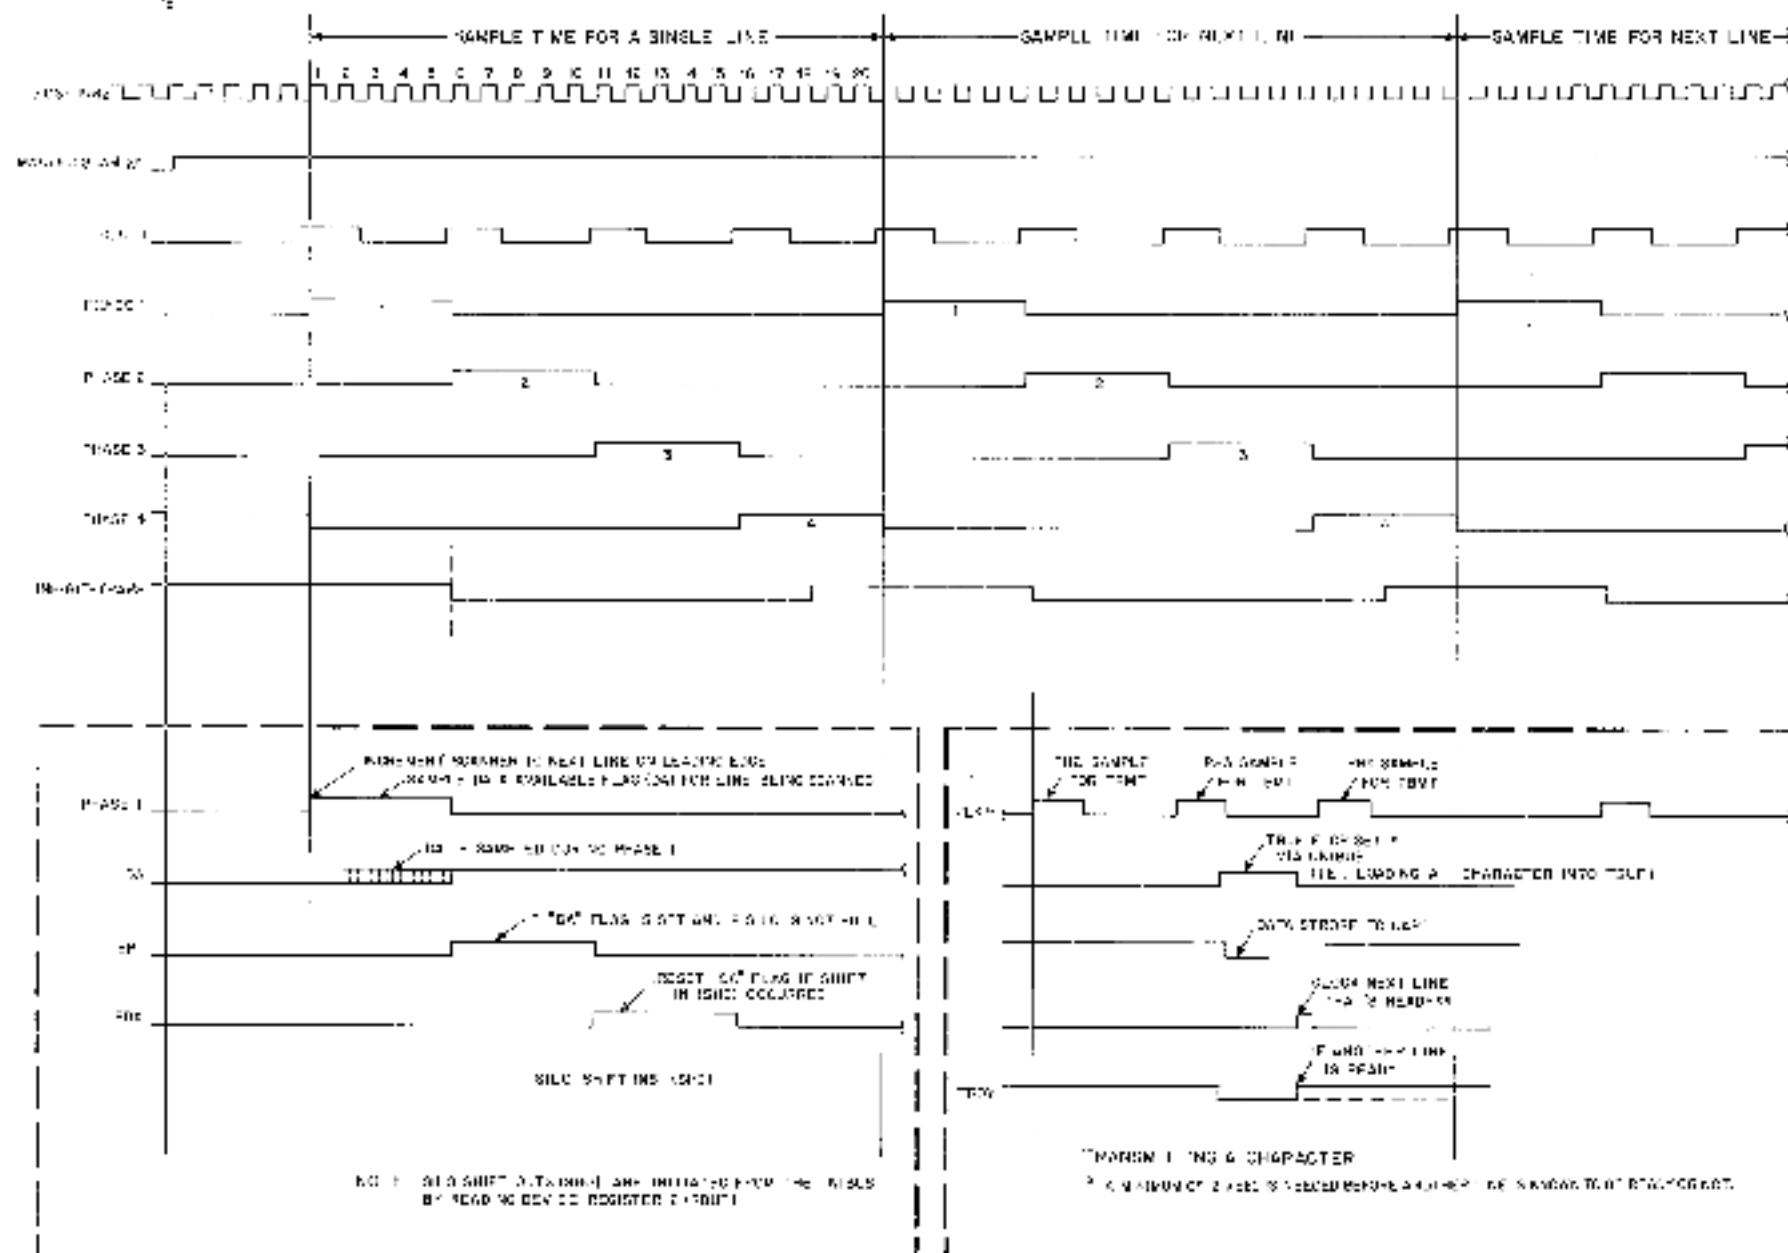
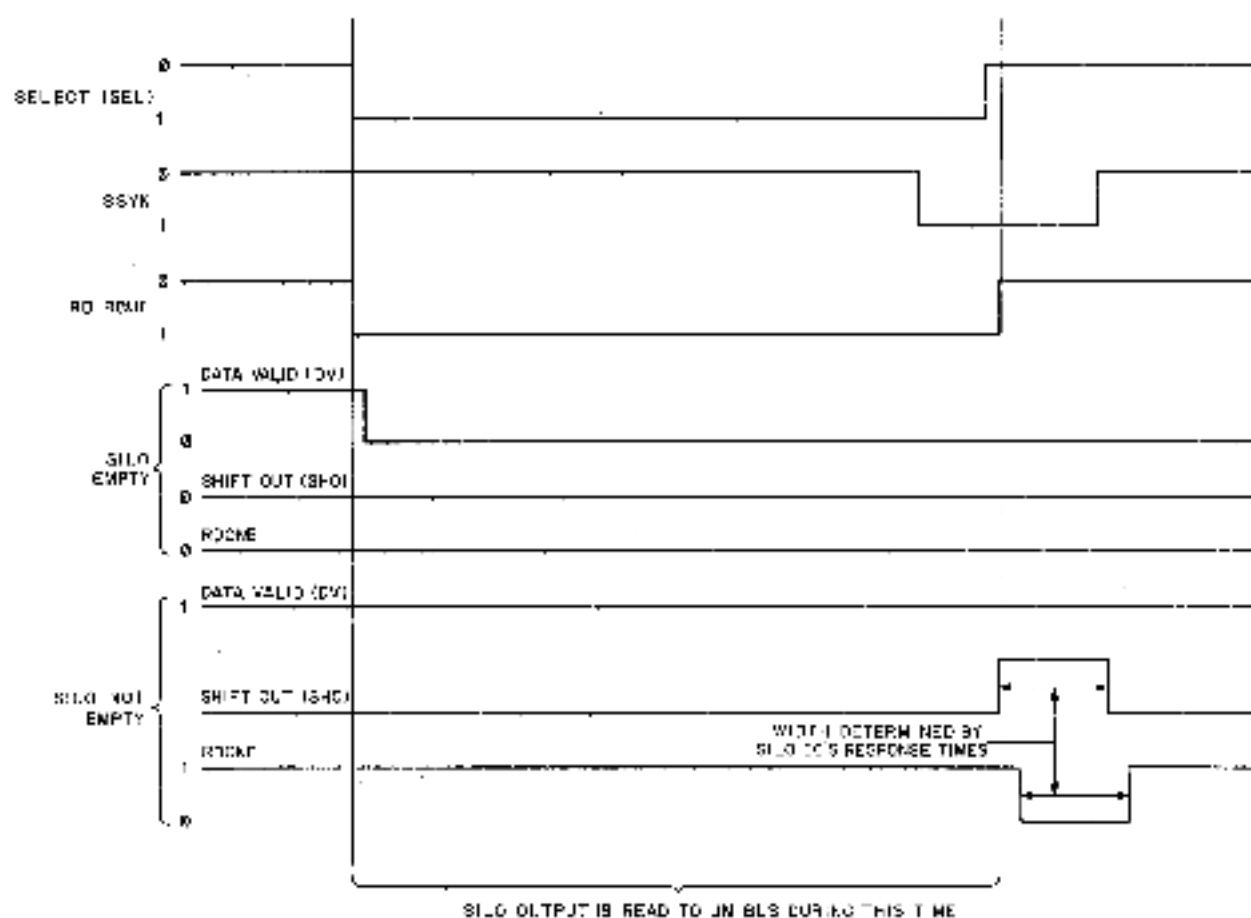

Figure 4-13 D/11 Scanner Timing
Figure 4-14 Silo Character Shift Out Timing Diagram
The operation of loading a character into the silo and reading the RBUF is timed by the scanner. As shown in Figure 4-13, at the trailing edge of phase 4 (leading edge of phase 1), the scanner is incremented to the next line for sampling. During phase 1, the data available (DA) flag is sampled. If the flag is set and the silo is not full, a shift-in (SHI) pulse (leading edge of phase 2) moves a character from the UART for that line to the silo. At the trailing edge of phase 2 (start of phase 3), the reset data available (RDA) pulse resets the DA flag if SHI occurred during phase 2. Phase 4 terminates the RDA pulse. The Unibus initiates a character shift out of the silo by reading the RBUF (Figure 4-14).